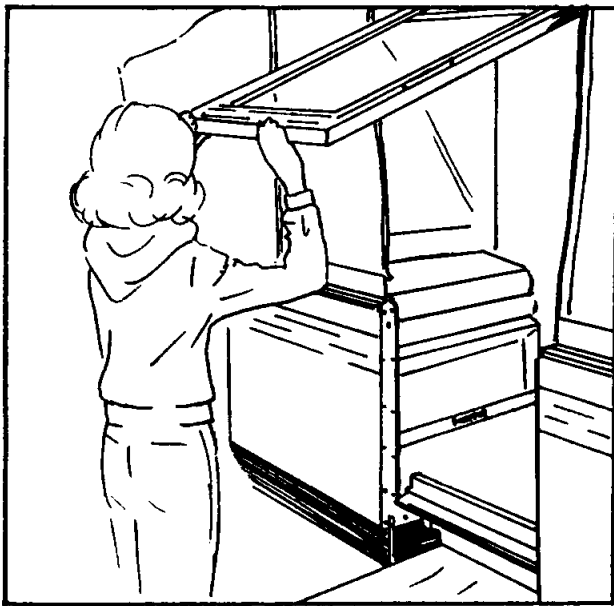
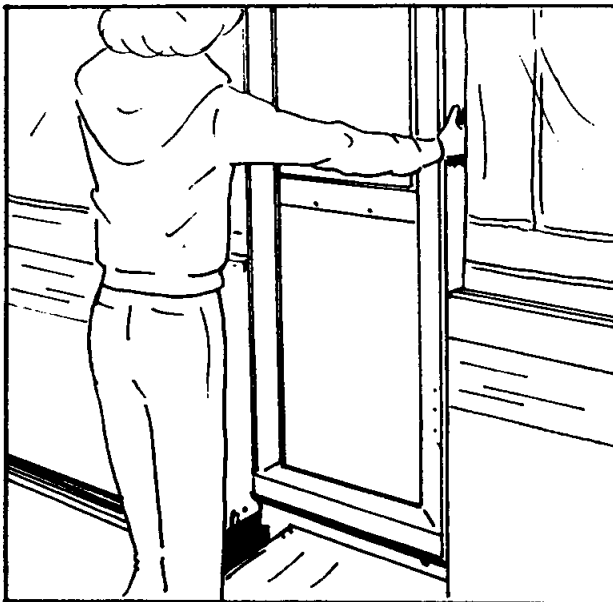
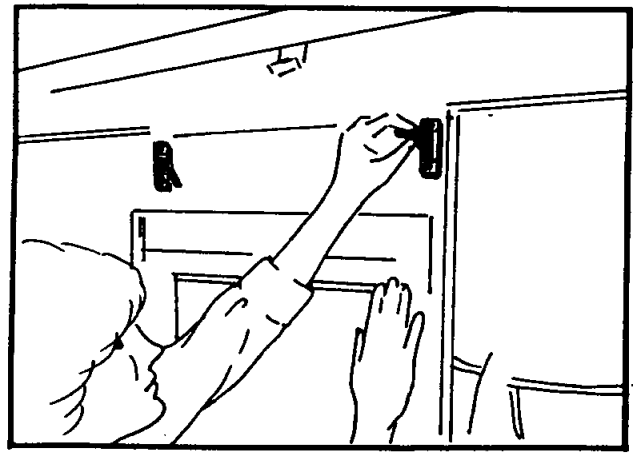

FIGURE 27
FIGURE 28
FIGURE 29
35. Hold the screen door up from the floor and move it towards the outside of the trailer. See Figure 27.
36. Grasping the door frame with both hands, one on either side, lower screen door into the doorframe track at the base of the doorway. Unlock the screen door latch and step inside. See Figure 28.
37. Fit the top door retainer into position and engage the two retainer locks. See Figure 29.
16. Step inside the trailer, lock the screen door, and release the top door retainer. See Figure 29. Step outside the trailer and grasp the doorframe with both hands, one on each side, lift up and remove from the door threshold and allow the door to tip inward. See Figure 28. Lift up and push the top of the door toward the far side of the trailer. See Figures 27 and 26. The large opening of the keyhole slots located on the door must be lowered onto the door storage retaining pins. Move door slightly to curbside to be certain pins are fully engaged and snap retaining snaps.